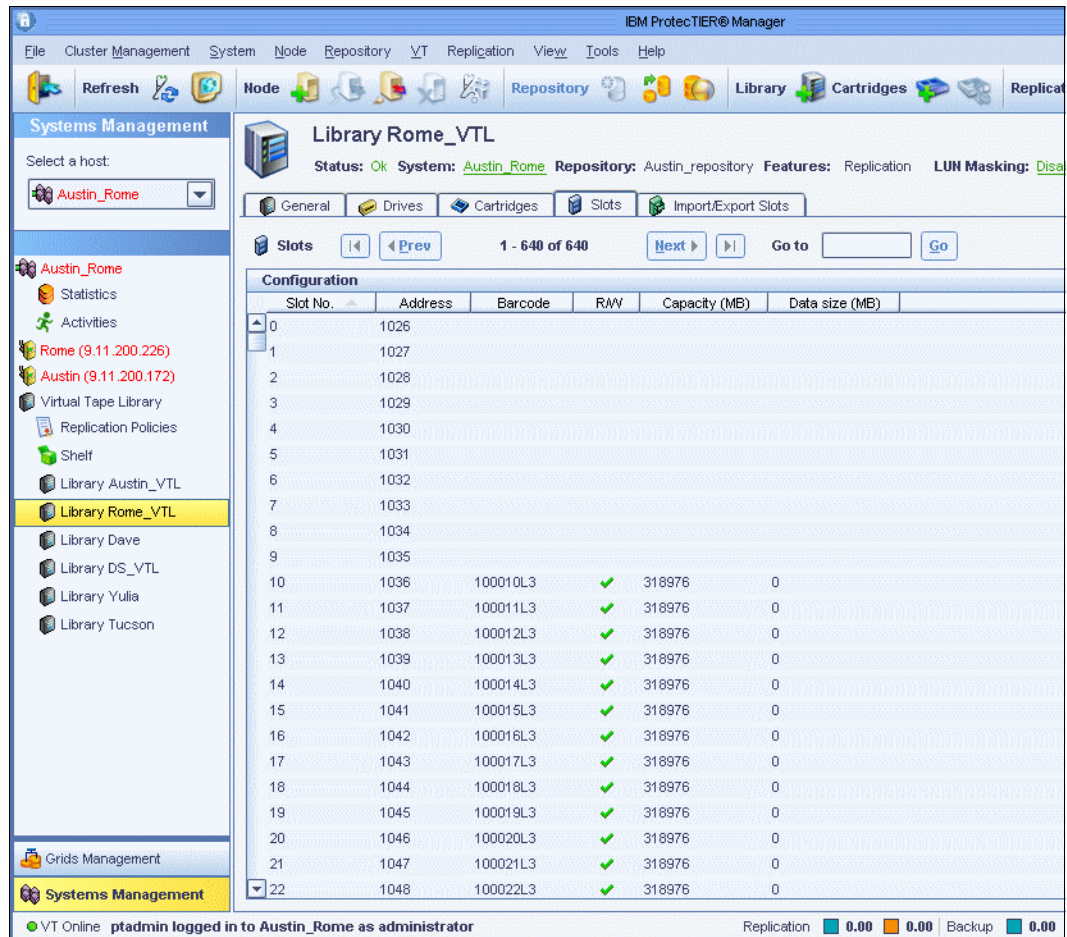

Figure 10-132 Library configuration window
2. Select the **Slots** tab. The library configuration window opens (Figure 10-132).